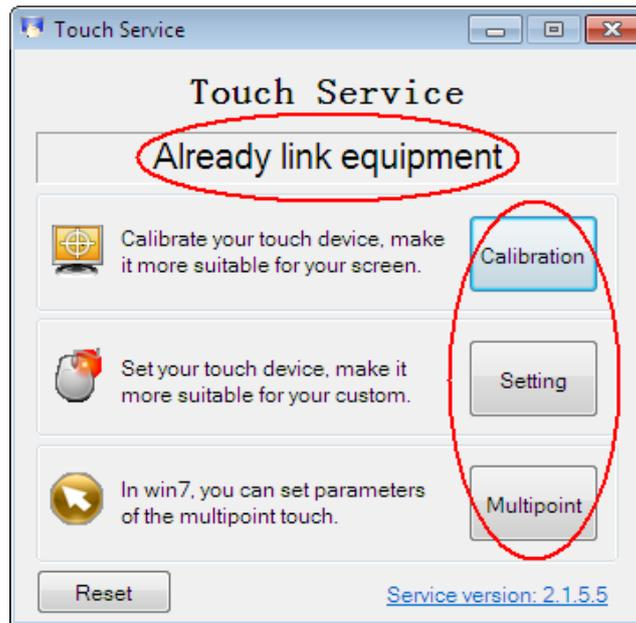

Figure 3-16
3) After 3 seconds, it will change to "Already link equipment" (Figure 3-16).